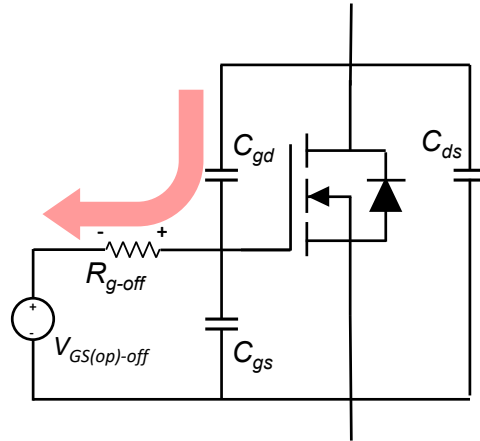

Fig. 8: Miller capacitor induced gate-to-source voltage bounce
During  $t_0-t_1$ , when the QL is turning-on, there will be a positive  $dv/dt$  on the VDS of the freewheeling device (QH). As a result, a parasitic current will be generated from the drain to the gate through Cgd (Miller capacitor). The voltage drop caused by this current on the gate resistor shows on the gate terminal and causes the voltage bounce, as shown in Figure 8.